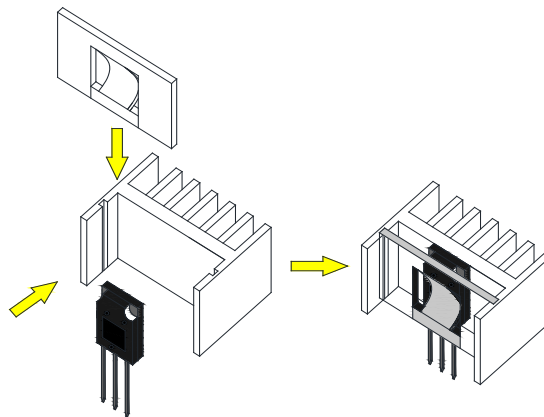

Fig. 17 Direct mounting with spring clip - C
- For heatsink with trench structure, use a 25N ~ 50N spring clip to mount the device on the heatsink, as shown in Figure 17.